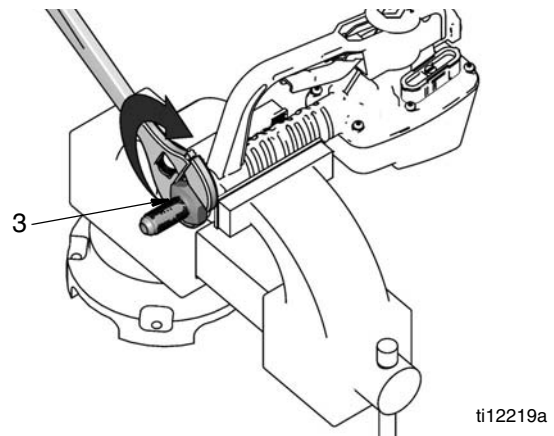

FIG. 5
5. Install bulk head fitting (3) in meter inlet (FIG. 5). Use wrench to snug fitting.